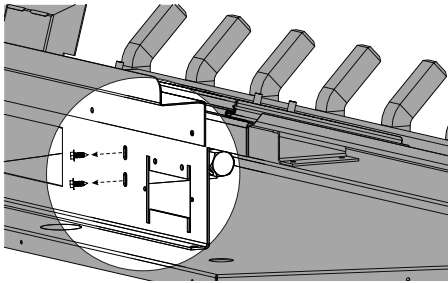

FIG. 2: Side/Back View of Burner Assembly
3. Remove the two screws securing the orifice bracket in place (FIG. 2).